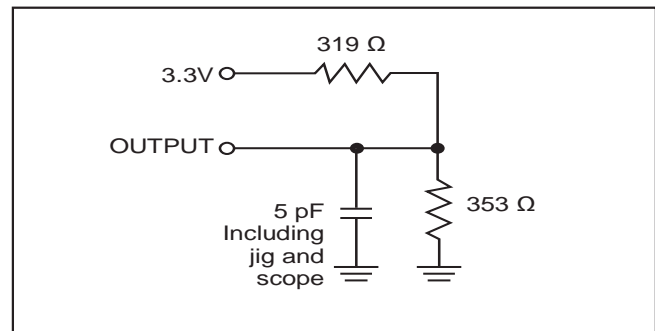

Figure 2.
- Tested with the load in Figure 2. Transition is measured  $\pm 500$  mV from steady-state voltage. Not 100% tested.
3. Tested with the load in Figure 2. Transition is measured  $\pm 500$  mV from steady-state voltage. Not 100% tested.